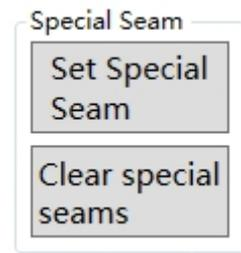

Fig. 5.4.3b Special Seam Setting Button
Operation: ① First select the special seam position in the single graphic editing. The setting button is shown in Fig. 5.4.3b below. For the setting method, please refer to 5.6.9 Special Seam Settings.